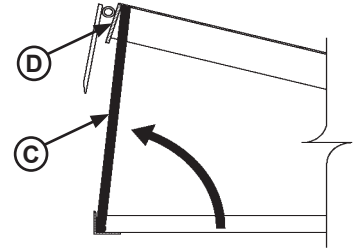

Figure 23
- Lubricate the following areas with light weight machine oil (see Figure 23):
- (A)— Lip hinge area unless equipped with grease fittings (apply oil to the top of the entire length of lip hinge when platform is at the full below-dock position and lip is folded).
- (D)— Platform hinge area (apply oil to top of all platform hinges when platform is at the full below-dock position).
- (C)— Lip link pivots.
- (B)— Lip maintenance prop pivot.
- (F)— Safety leg linkage pivots.
- (E)— Lip assist pin.